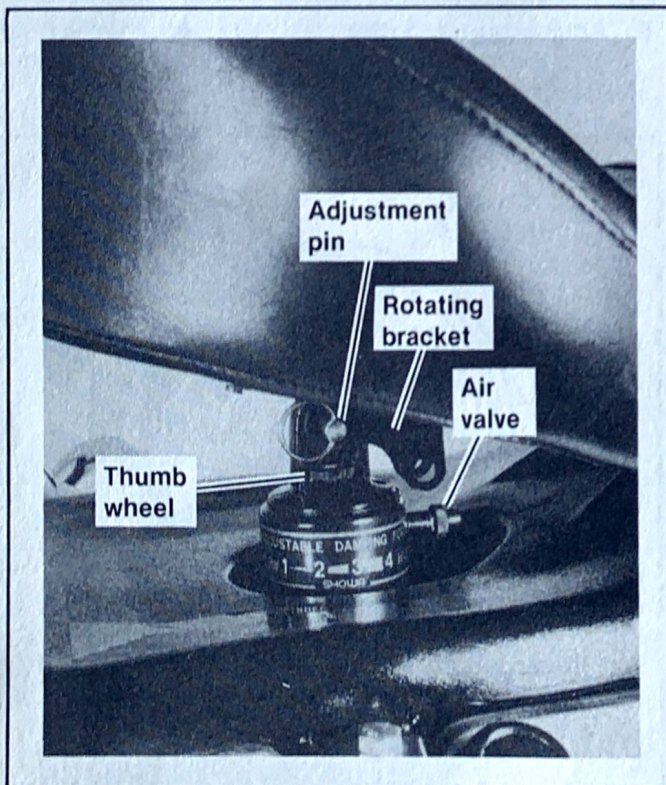

Figure 2-5. Solo Seat — FLHTP
### FLHTP (Figure 2-5)
2. See Figure 2-5. Remove adjustment pin.
2. See Figure 2-5. Install adjustment pin.